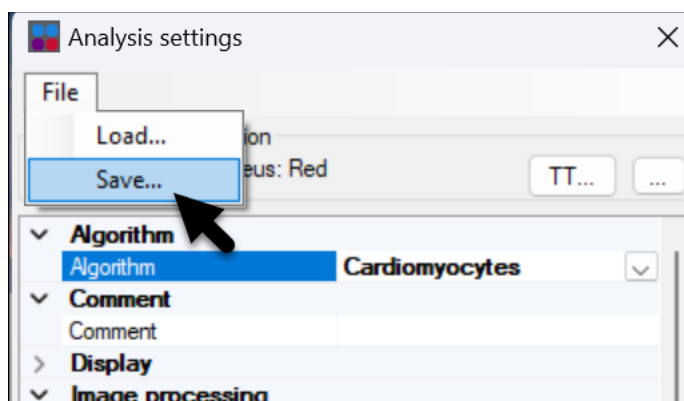

Figure 22. The Save... menu option in the *Analysis settings* window.
3. In the window, go to **File > Load...** (see Figure 22).